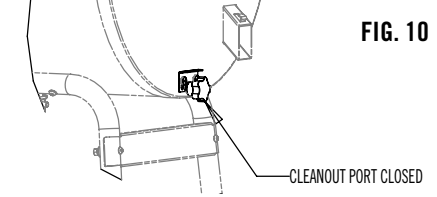

FIG. 10
1. Clean-out Port knob must be pushed in when grill is on. Make sure pullout lock is pushed down and locks the knob to prevent inadvertent opening of the clean-out port. See Fig 10.